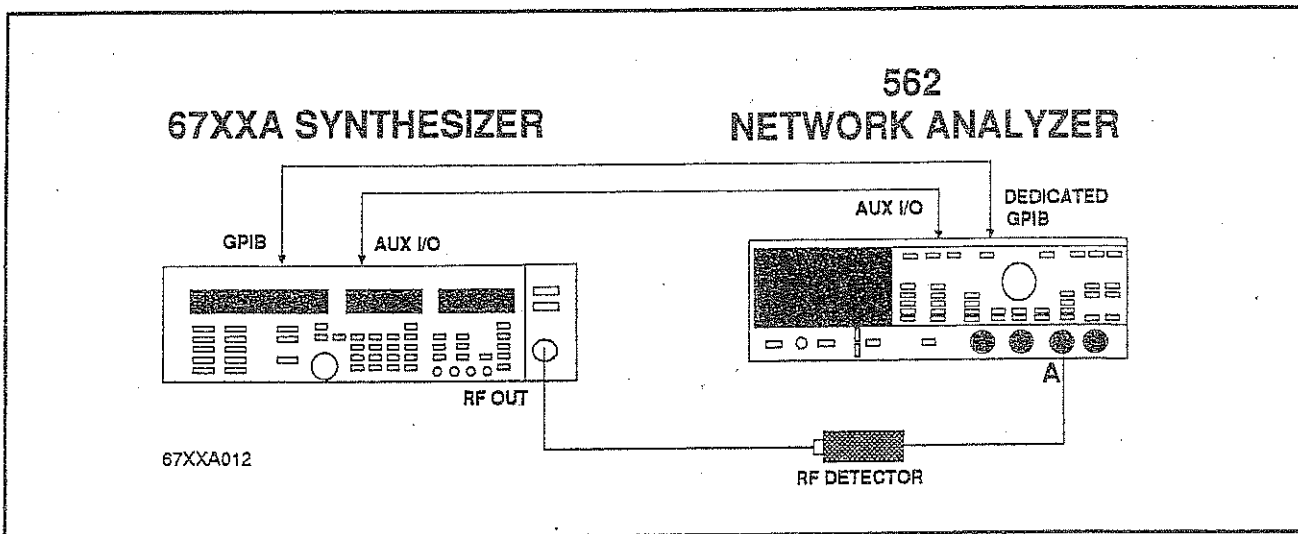

Figure 3-10. Test Equipment Setup for ALC Slope Calibration
1. Connect the equipment as shown in Figure 3-10.